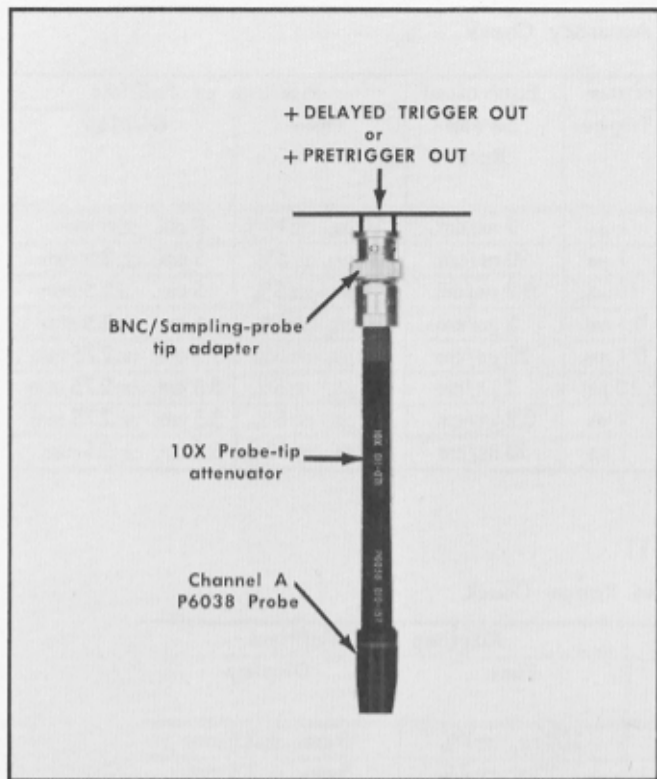

Fig. 6-16. Test connection for checking +Delayed Trigger Out and +Pretrigger Out signals.
d. Connect the Channel A sampling probe tip to the Type R116 +DELAYED TRIGGER OUT connector through an adapter, and a 10× probe-tip adapter as shown in Fig. 6-16.